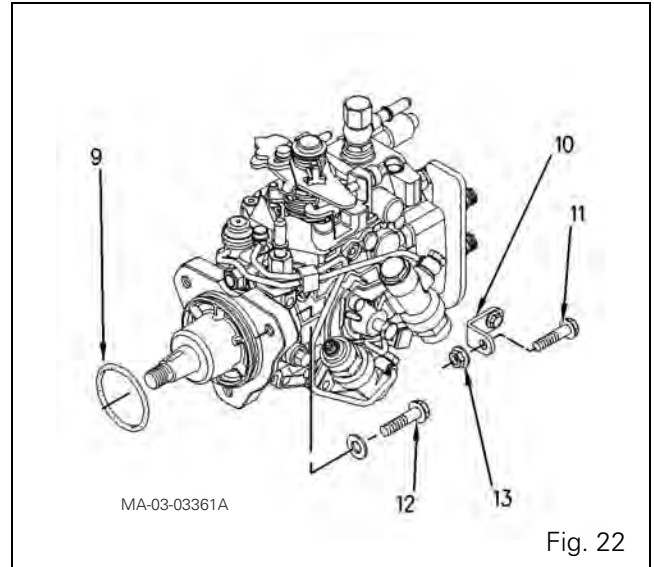

Fig. 22
108. Lightly lubricate a new "O" ring (9) with silicone oil. Fit the new seal (9) to the pump. Position the injection pump on the housing. Refit the screws (12). Tighten the screws to 25 Nm (Fig. 22).